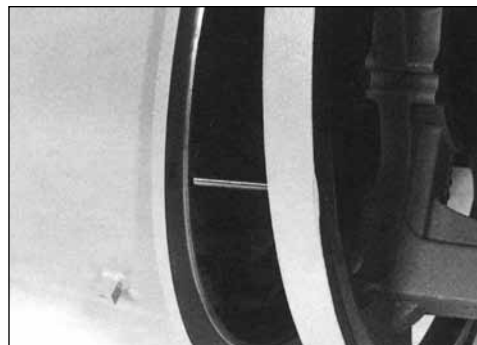

Figure 6-52
1. Install two guide pins (threaded rod can be used) into the generator side of the end bracket mounting holes. Align the guide pins with the holes in the generator frame and slide the bracket onto the frame (figure 6-52). Install bracket mounting capscrews (figure 6-53).